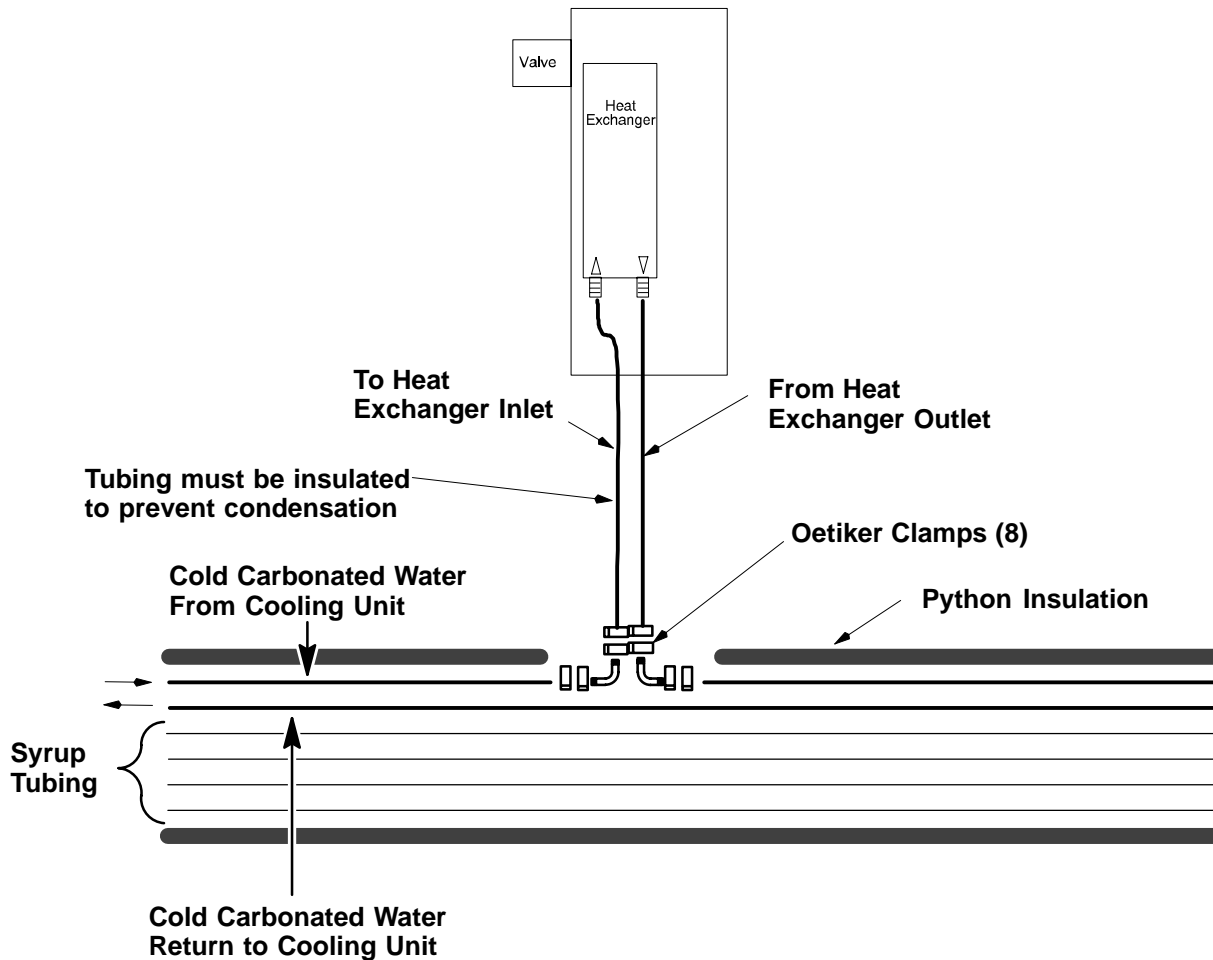

FIGURE 1. CONNECTION TO EXISTING SODA SYSTEM COOLANT
6. Connect tubing as shown in Figure 1.